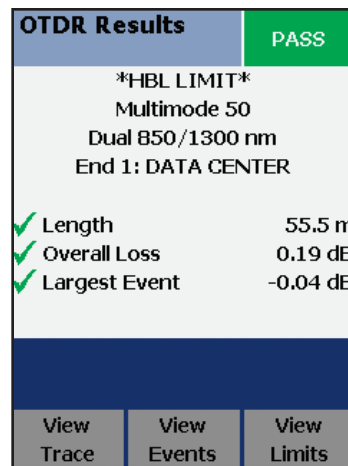
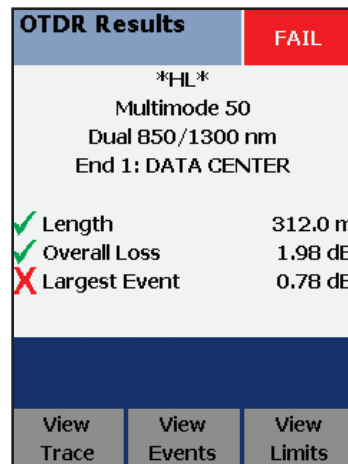

Figure 16 – “Pass” screen on the DTX Compact OTDR
Figure 17 – “Fail” screen on the DTX Compact OTDR
- It is possible to create multiple sets of OTDR test limits and select one for a particular job. Each OTDR test passes (Figure 16) or fails (Figure 17) based on a comparison against the selected set of test limits.